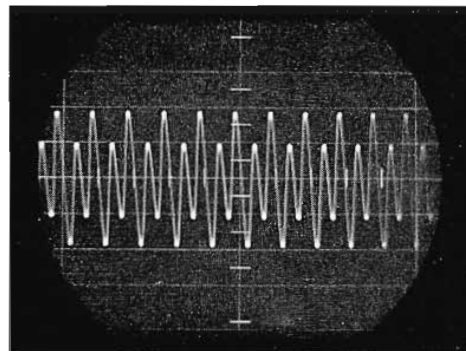

FIG. 5. Waveforms depicting balance and unbalance indication of balanced modulator in TVM AFC unit. These waveforms are observed at J902.
3. Turn AFC ON and adjust the MOD BALANCE control R909 (and C909 if necessary) for a null in 100 kc indication on a CRO connected to J902. Only a 200 kc display should remain (see Fig. 5).
An attempt to manually detune the receiver (or transmitter) via its COARSE or FINE controls should show in unbalance on the CRO waveform at J902 as indicated in Fig. 5.